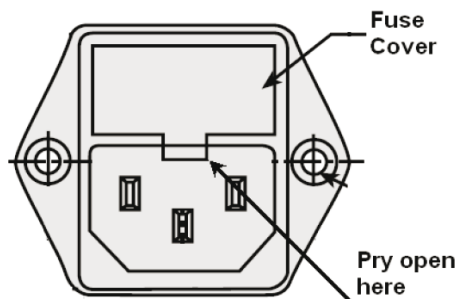

Figure 11.1 Fuse close-up
3. Carefully remove the fuse from its holder. You may need a small screwdriver or needle-nose pliers to pry open the fuse cover (see Figure 11.1).